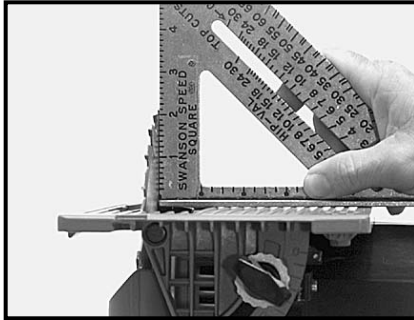

Fig. 7
4. Turn saw upside down, retract telescoping guard and check squareness of blade as shown in Fig. 7.